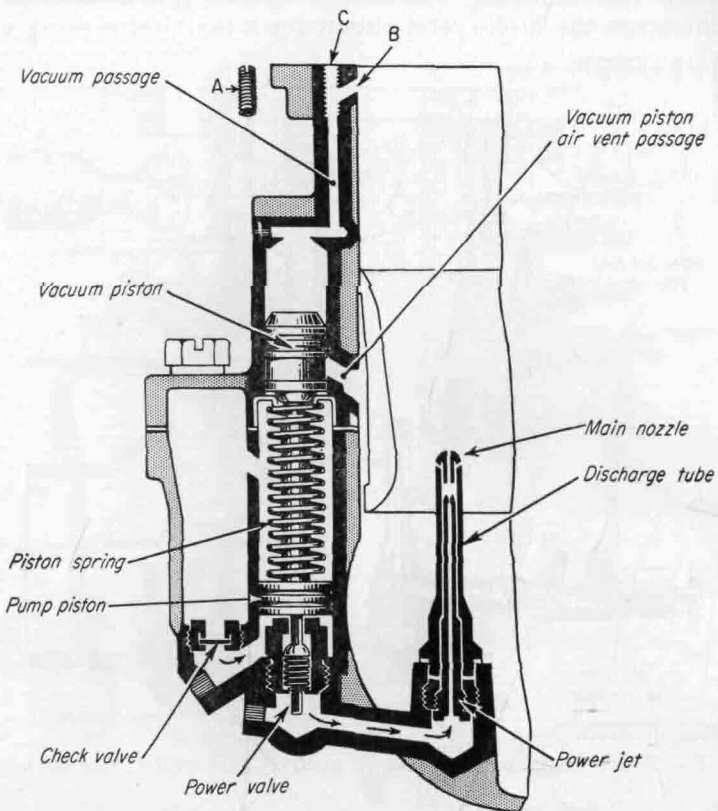

FIG. 5-16. Accelerator-pump and full-power circuit in updraft carburetor. A, plug; B, vent; C, plug opening. (Zenith)
8. *Accelerator-pump circuit.* Figure 5-16 illustrates the accelerator-pump circuit of the updraft carburetor shown in Figs. 4-32, 5-14, and 5-15. This pump works in much the same manner as accelerator pumps previously described. When the throttle is closed, intake-manifold vacuum, operating through the vacuum passage, draws the vacuum piston upward, compressing the piston spring. This movement lifts the pump piston into the upper part of the pump chamber. Then, when the throttle is opened, intake-manifold vacuum drops, releasing the vacuum piston. The piston spring forces the pump piston downward. The pressure on the
is insufficient vacuum in the intake manifold to hold the vacuum piston up. It, along with the pump piston, moves to the bottom position as shown in Fig. 5-16. The pump piston then holds the power valve open. Now, extra fuel can flow past the power valve to the main nozzle for wide-open throttle, full-power operation.